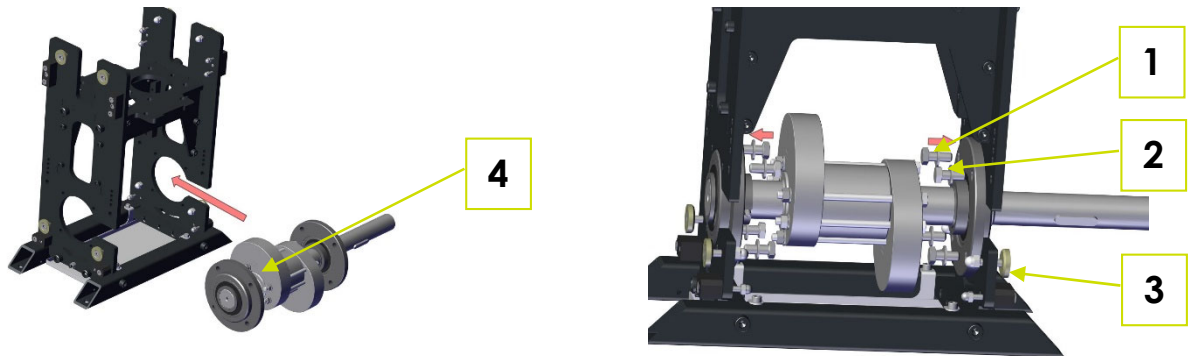
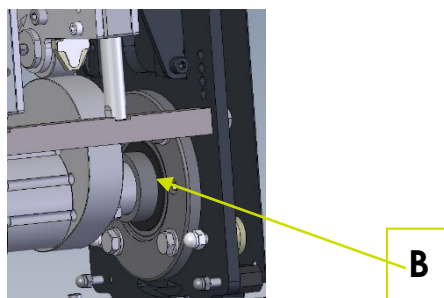

Fig. 8-3: Mounting the drive train
Fig. 8-4: Mounting the drive train Lubrication lines on the right side
1. Disconnect the lubrication lines from the fixed and loose bearings (see Fig. 8-4: Mounting the drive train Lubrication lines on the right side).
2. Dismount and take out eight hexagon screws M10x25 (1), washers (2) and hexagon nuts M10 (3).
4. Pull out drive train (4) to the side.
When installing, ensure that the connections B (Fig. 8-4: Mounting the drive train Lubrication lines on the right side) of the lubrication lines of the loose bearing and fixed bearing are on the right side of the Piston pump.
1. Introduce drive train (4) into the Piston pump (Fig. 8-3: Mounting the drive train) from the side.
2. Hand-tighten hexagon screws M10x25 (1), with washers (2) and hexagon nuts M10 (3) with washers (2).
3. Tighten hexagon screws M10x25 (2), washers (1) and hexagon nuts M12 (4) to 35 Nm.
4. Mount the lubrication line of the fixed bearing and the loose bearing (Fig. 8-4: Mounting the drive train Lubrication lines on the right side).